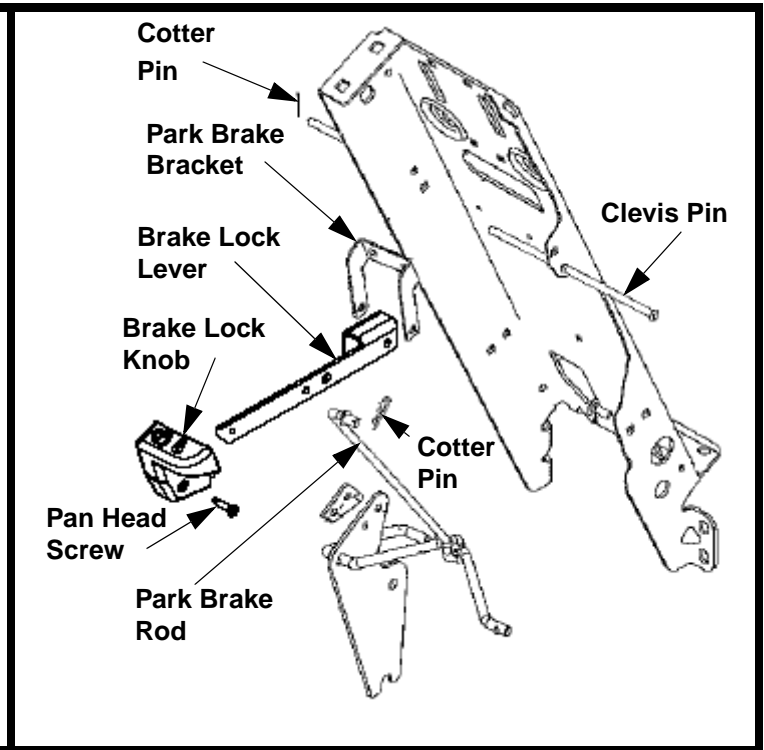

FIGURE 4A
2. Install the 703-2963 Brake Lock Lever from where the single one piece Brake Lever was removed using the existing hardware. Install with the off-set facing inward. Refer to Figure 4A on page 4.